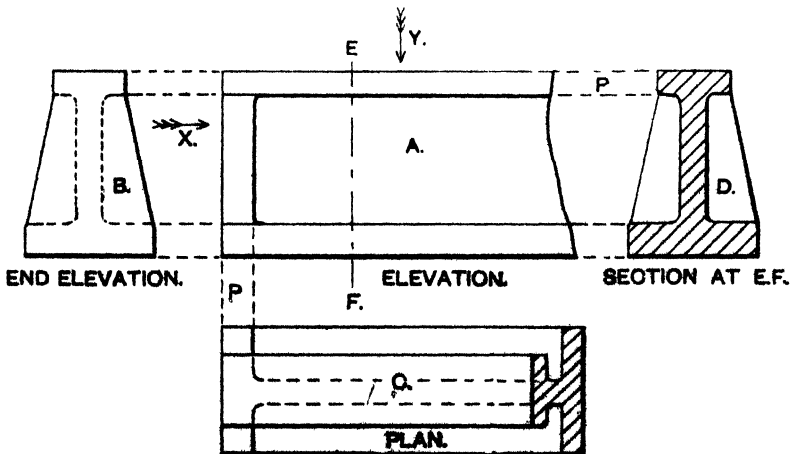
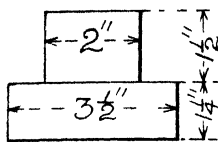
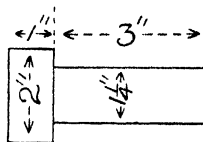
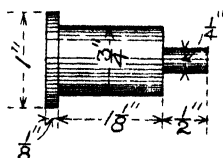

FIG. 1
FIG. 3.
FIG. 4.
FIG. 5.
The chief purpose in Machine Drawing is to enable the designer or draughtsman to convey his ideas to the workman, so that the mechanism or machine can be constructed. It is therefore necessary for the drawing to give the exact size and form of the machine and its several parts. For this purpose Orthographic Projection is used. An example of this is shown in the accompanying sketch, Fig. 1, where the principle of projection is applied to the drawing of a cast-iron beam.
NOTE.—In preparing drawings of any object each view must be properly projected one from the other as indicated by the dotted lines marked P on Fig. 1. For the guidance of beginners, projection lines have been inserted in all the examples on pages, 7, 8 and 9, to show how the respective views must be drawn; after a little practice students will find that it is not necessary to show these projection lines, the *centre lines* alone will be sufficient.
In preparing machine drawings, elevations and plans do not always show clearly the construction, so in order to make the parts clear the detail or object is supposed to be cut through by planes in such directions that the arrangement of the parts is clearly shown. In Fig. 1, the beam is supposed to be cut through by the plane E.F., and the solid parts so cut are "section lined," see view D., these section lines must always be drawn with the angle of 45°. In drawing sectional views it is usual to show rivets, bolts, rods, and shafts (when seen at right angles to their axes) in *outside elevation*, as it will readily be seen that their sections are obvious. The ordinary way of drawing these details is shown on pages 10, 11, 25, 27, etc.
If any line in the object drawn cannot be seen from the point at which it is viewed, such a line is shown dotted, an illustration of this will be seen in Fig. 1, views B. and C.
In preparing drawings, sufficient views should be drawn to make the design of the machine or its parts quite clear. These should be neatly arranged on the drawing paper, with a suitable space between each view, and not crowded together or near one edge of the paper. A little care at the outset in calculating the space each view will occupy, will prevent *bad arrangement*. Fig. 1 shows how the views are usually arranged in relation to each other.
and *not* as in Fig. 4. If the lines are too close together, the arrow points may be placed on the outside, *see* Fig. 5, but where there is sufficient room they should always be placed inside the lines as in Fig. 3.
In marking the distance between two lines be careful to put the arrow points close to the line as shown at Fig. 3,
In many drawing offices the usual procedure is to keep the drawings in pencil, and to make the tracings in ink, from which photo or "Blue-prints," are made. In making tracings care should be taken to get the lines of uniform thickness, and to make the joints neatly where a straight line joins an arc of a circle. Some offices favour one thickness of lines throughout the tracing, whilst in others two thicknesses of lines are used in the same tracing, as shown at Fig. 1. (*See notes on back-lining, page 6*).
- (1) *Backline Shading.* A drawing is greatly improved by back-lining or line shading, *i.e.*, making the right-hand side and bottom lines rather thicker (*see* Figs. 1 and 3); round parts may also be lightly shaded to make them clearer as shown at Fig. 5.
- (2) *Colouring.* Water colours are often used to indicate the Metals employed in the construction of the different parts of machines. The following table shows the colours used by engineers for the various materials.